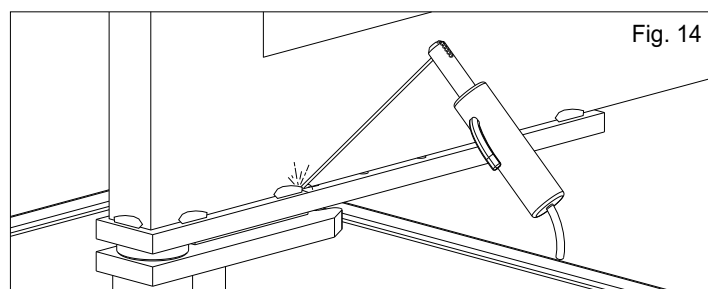

Fig. 14
3.2. Weld with care the leaf device to the leaf of the gate realizing a tract fixation of ca. 3-4 cm along the surface of the contact, avoiding the welding next to the threaded holes, furthermore it is necessary to respect the perpendicularity to the axe of rotation (Fig. 14)